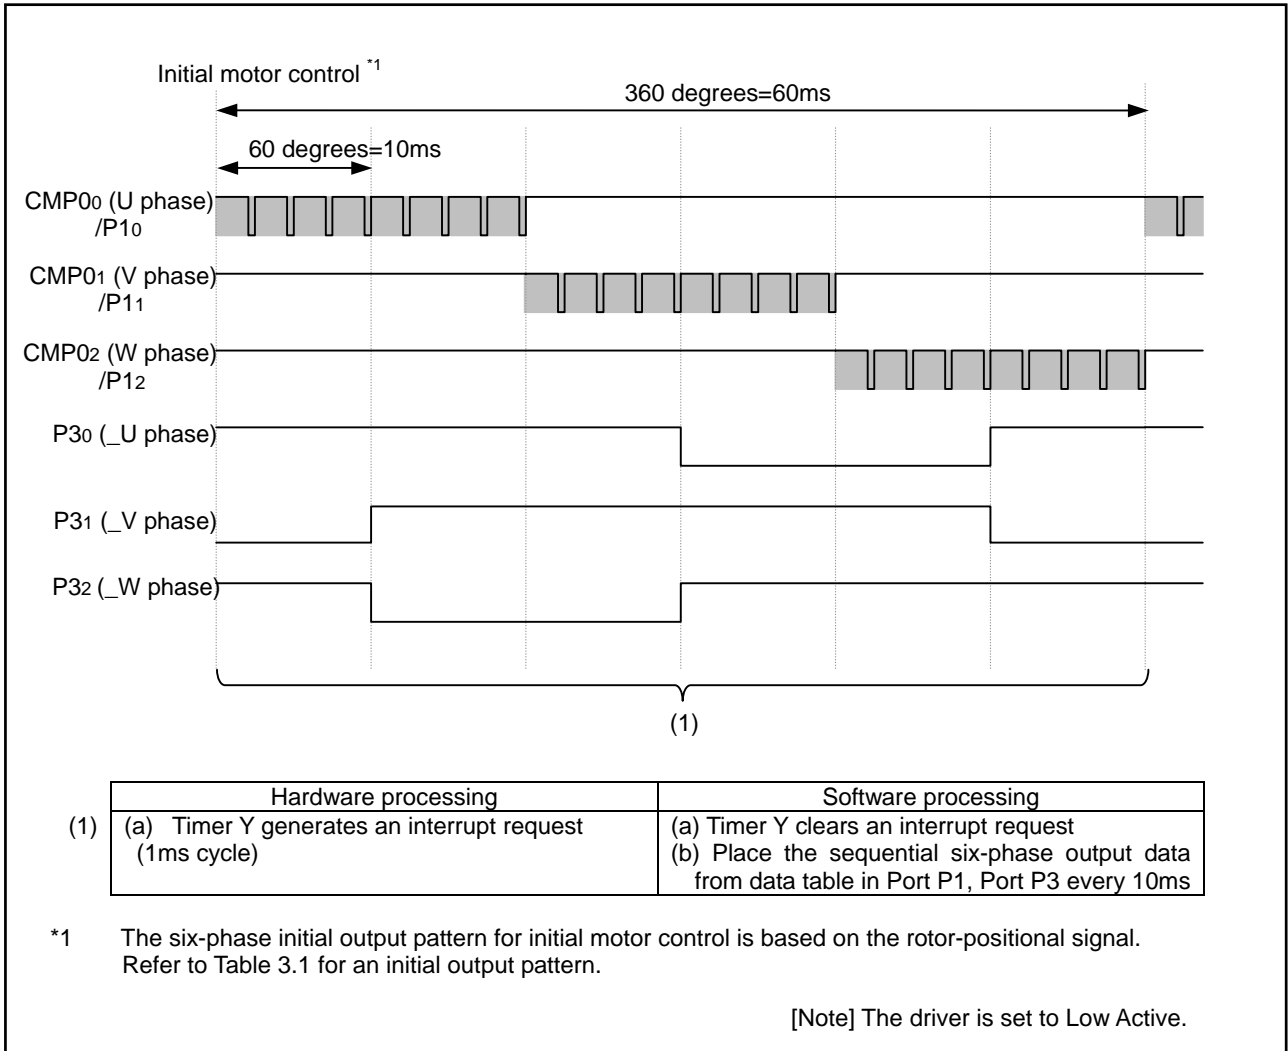

Figure 3.3 Initial Control of the Brushless DC Motor : Principle of Operation
1. Figure 3.3 shows the principle of operation in initial motor control (until the motor has gone through its half rotation, switching of the rotating magnetic-field takes place at a constant period). Initial control of the brushless DC motor is through hardware and software processing by the R8C/11 Group as shown in figure 3.3.